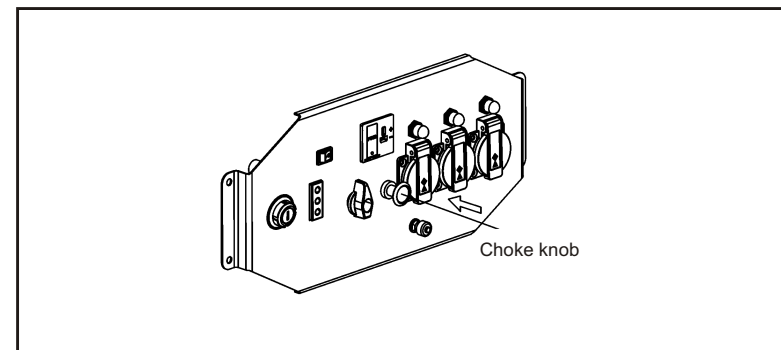

Fig.11 Choke knob opening view
- 4.5 Push the choke knob to the OPEN position as the engine warms up, see Fig.11.